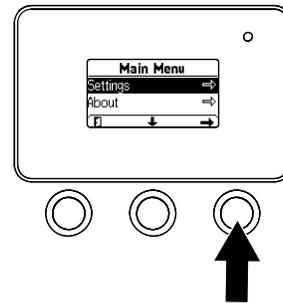

Figure 27
1. From the MAIN MENU, use the center button to scroll down to the SETTINGS MENU and press the right button (Figure 27).